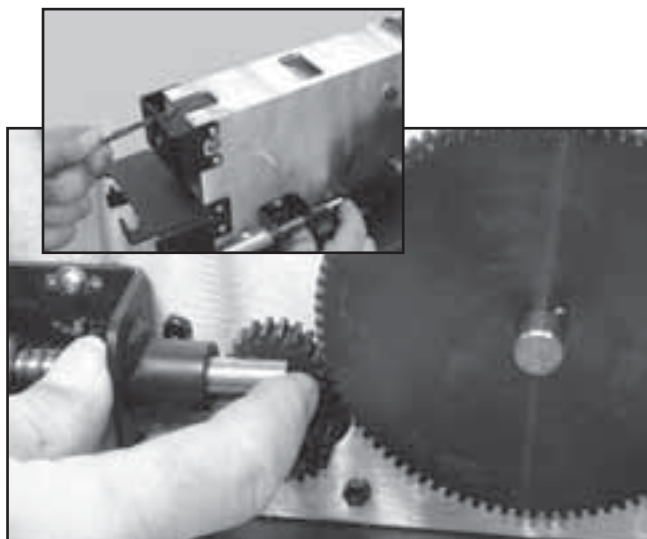

FIGURE 6.30
7. Manually release the Solenoid from the Large Driven Gear and simultaneously pull the Traction Cord through the unit front until the Traction Cord stops. See Figure 6.30.